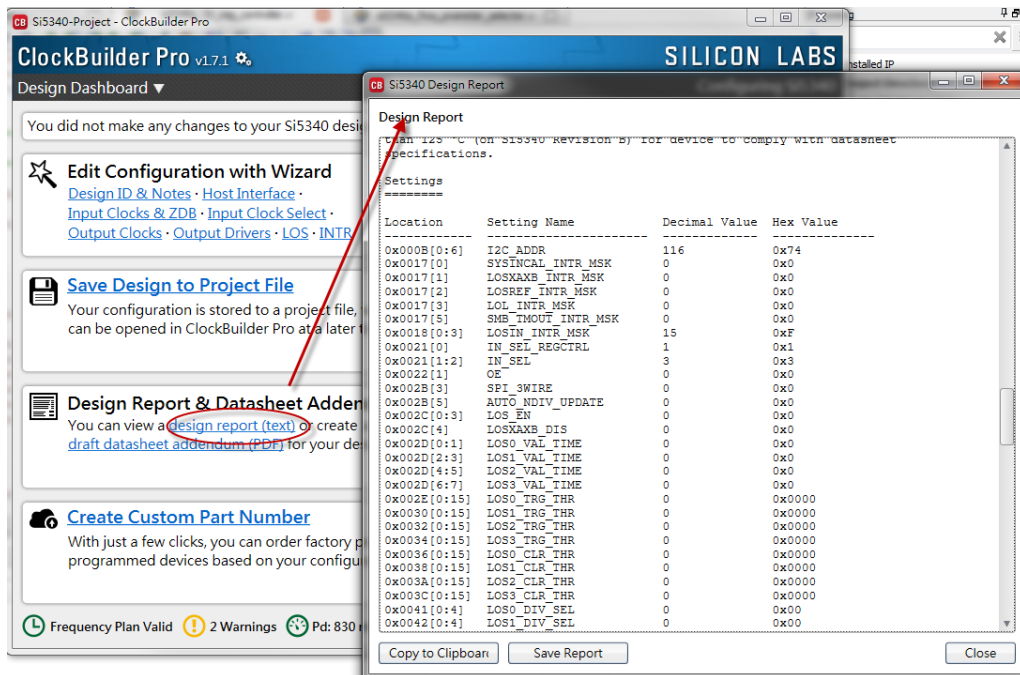

Figure 5-8 Open Design Report on ClockBuilder Pro Wizard
- After the setting is completed, ClockBuilder Pro Wizard generates a Design Report(text), which contains users setting frequency corresponding register value (See **Figure 5-8**).